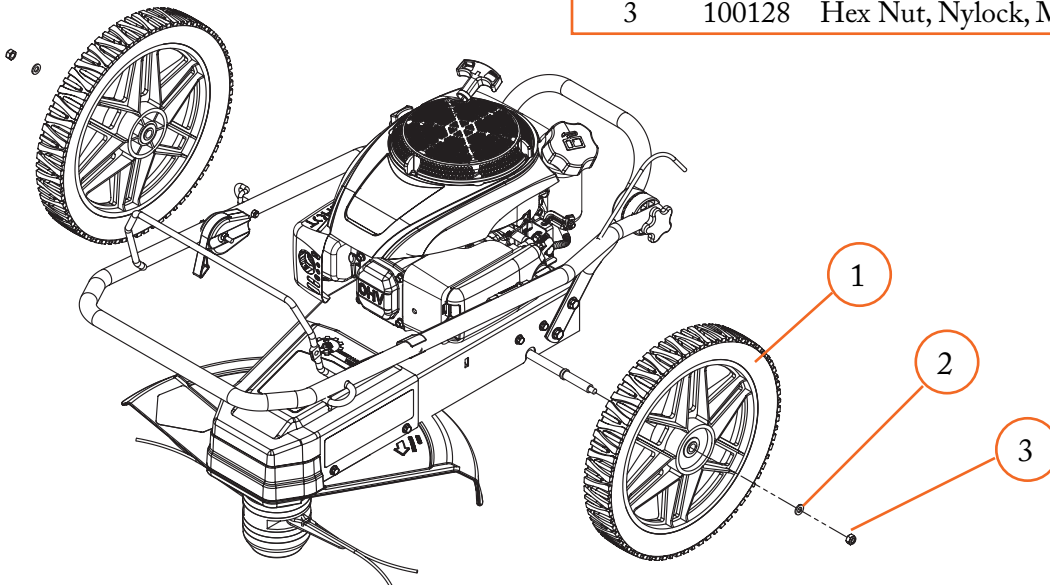

Figure 2
2. Attach wheels to the trimmer using nuts and washers attached to the trimmer axle (see figure 2).